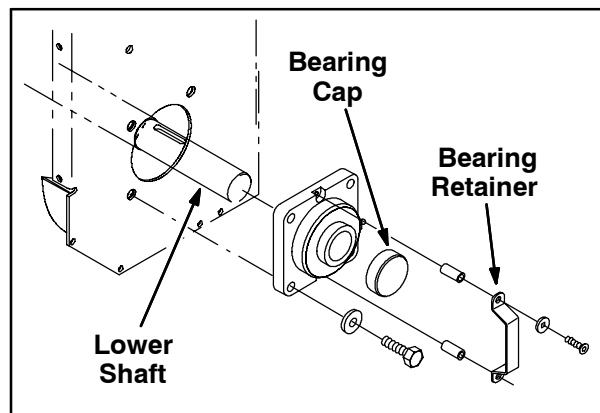

FIG. 5
6. Remove the lower bearing cap retainers and caps and the retaining bolt from the end of the lower shaft. **Do Not** remove the bearing from the conveyor. Set parts removed in this step aside. Refer to Fig. 5.